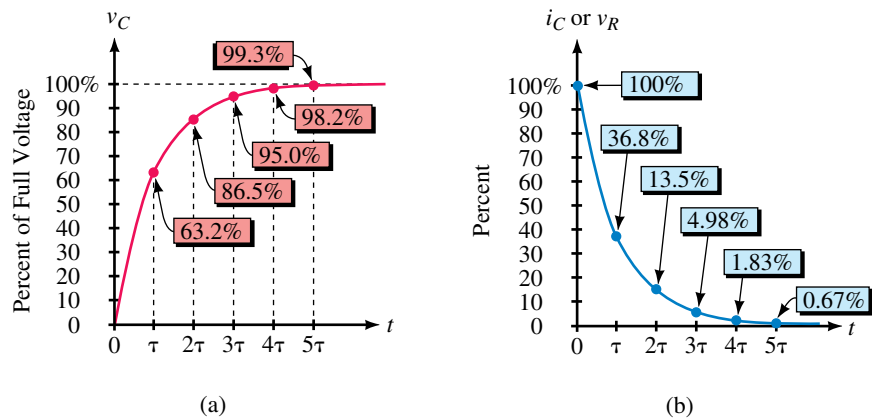

FIGURE 11-15 Universal voltage and current curves for RC circuit.
Figure 11-15 shows percent capacitor voltage and current plotted versus multiples of time constant. (Points are computed from $v_C = 100(1 - e^{-t/\tau})$ and $i_C = 100e^{-t/\tau}$. For example, at $t = \tau$, $v_C = 100(1 - e^{-1}) = 100(1 - 0.368) = 63.2 \text{ V}$, i.e., 63.2%, and $i_C = 100e^{-1} = 36.8 \text{ A}$, which is 36.8%, and so on.) These curves, referred to as universal time constant curves, provide an easy method to determine voltages and currents with a minimum of computation.
EXAMPLE 11-6 Using Figure 11-15, compute v_C and i_C at two time constants into charge for a circuit with $E = 25$ V, $R = 5$ k Ω , and $C = 4$ μ F. What is the corresponding value of time?
7. Find capacitor voltage and current for Figure 11-16 at $t = 0.6$ s using the universal time constant curves of Figure 11-15.